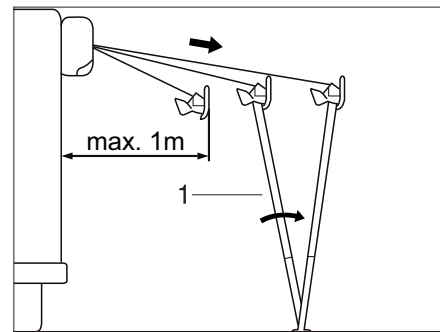

Fig. 37 Putting up the awning
- Fold out the support legs (Fig. 37,1) and set them on the ground.